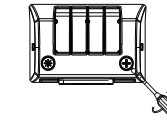

figure 6.1
Step 2: (figure 6.1) , then slide the switch up and down to adjust the power controller, CCT controller or photocell controller in your demand. (figure 6.2)